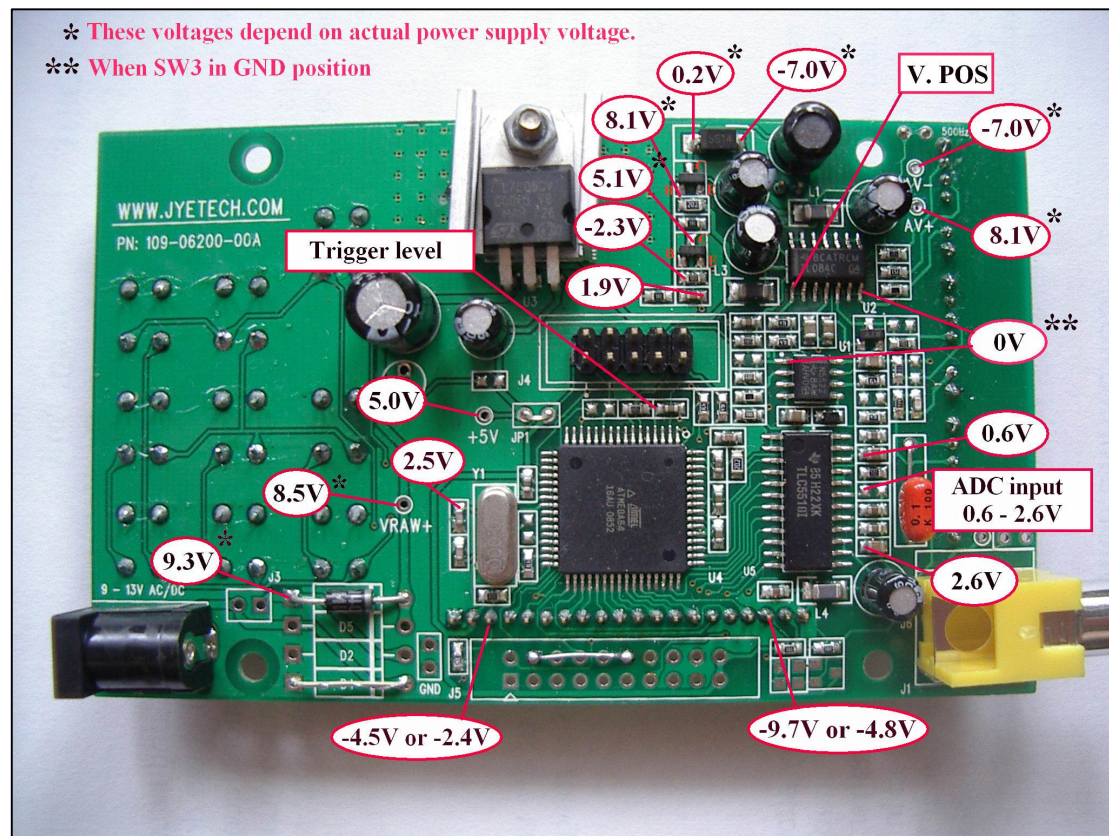

Fig. 1
Fig. 1 shows typical voltages measured at various check points for a normal 062 oscilloscope.
- 1) Is D7 placed correct? - D7 should be placed with its striped end pointing 7805 (see Fig. 1). If D7 is placed wrong Q1 is likely burnt. Q1, if burnt, can be replaced with any general purpose PNP transistor (even a through-hole one). Q1 and Q2 polarity are shown in Fig. 1.